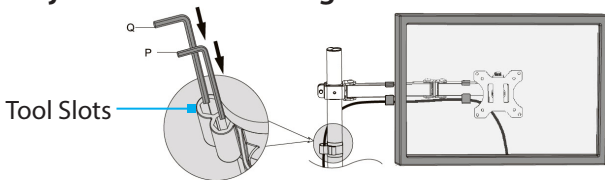

Figure 14
- Slide the **4 mm Hex Key (P)** and the **6 mm Hex Key (Q)** into the **Tool Slots**, located on the **Cable Management Clip (I)**. (Figure 14)